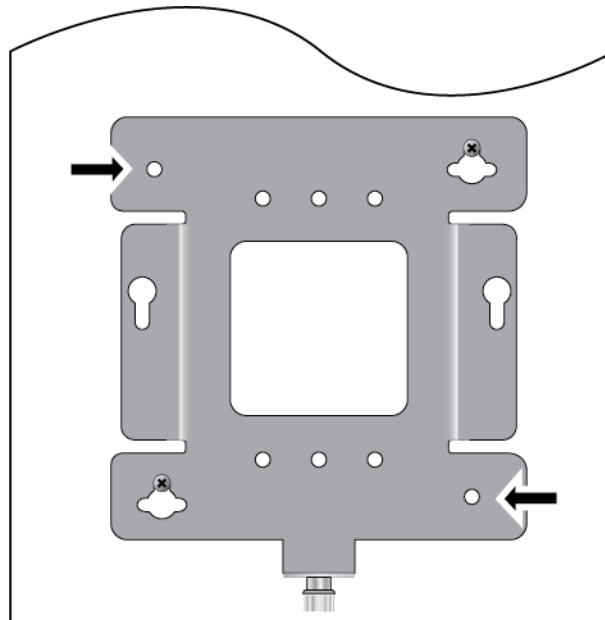

Figure 18. Pre-Drill Holes on Mounting Bracket
8. To secure the mounting bracket, pre-drill holes through the two bracket mounting holes opposite the key-hole slots. Refer to Figure 18.